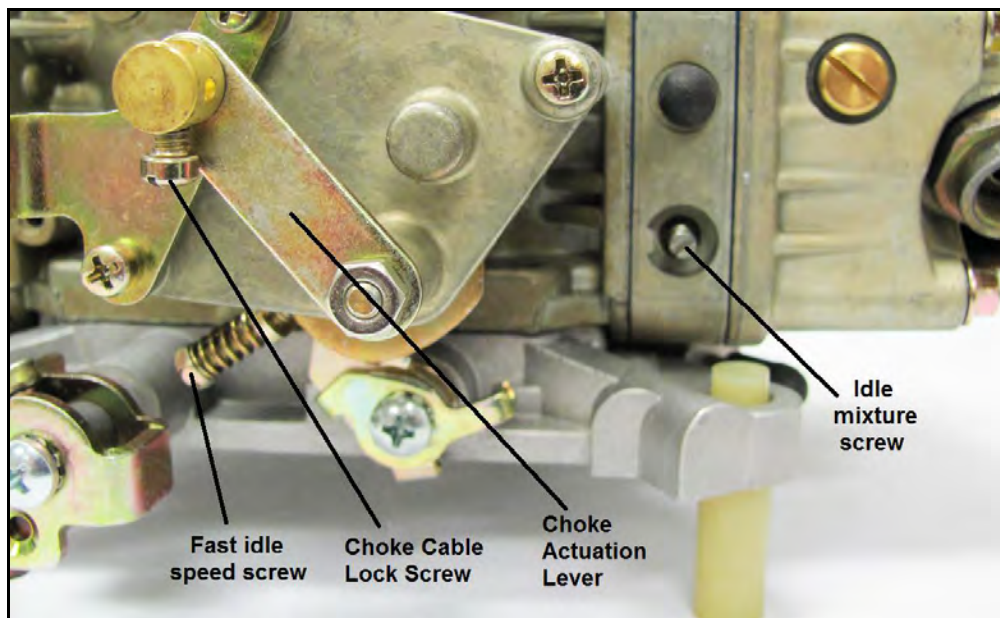

Figure 8
3. If the fast idle RPM is too low or too high for your preferences, TURN THE ENGINE OFF. Advance the throttle to wide-open, exposing the fast idle set screw below the choke housing (See **Figure 8**).
1. Connect the choke control cable (Holley® P/N 45-228) to the choke actuation lever, and lock in place with the choke cable lock screw (Figure 8).